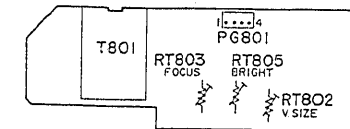

Fig. 4-52 Electronic Viewfinder (EVF)
(3) EVF Vertical Size Adjustment (Fig. 4-52)
(4) EVF Brightness Adjustment (Fig. 4-52)
(5) EVF Focus Adjustment (Fig. 4-52)